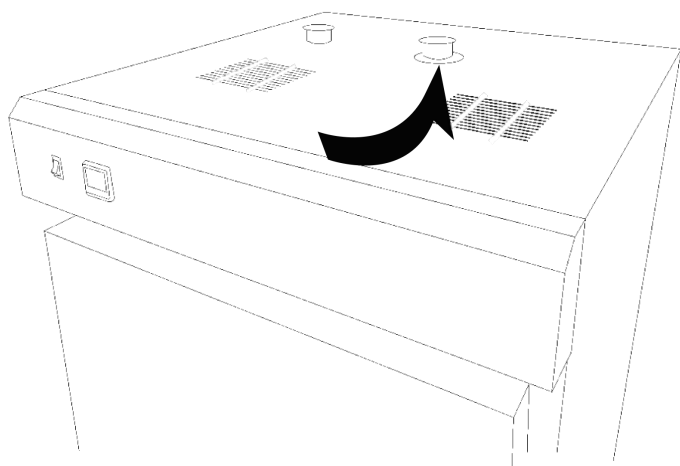

Fig 1.
- The top covers of the inlet and exhaust can be rotated either way to open up the exhaust and allow airflow (**Fig 2**). The air vents are located on the top of the cabinet. (**Fig 1**)